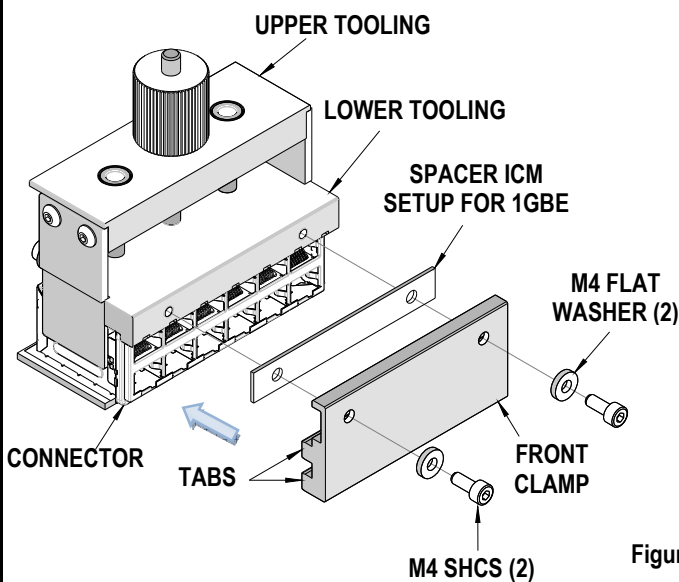

Figure 5
3. Place the lower tool over the connector assembly, then reattach the front clamp, making sure the tabs go into the connector ports. For the 1GB assembly, make sure the spacer plate is installed between the front clamp and the lower tooling. Re-install the (2) M4 SHCS and washers and close the front clamp on the connector. See Figure 5.